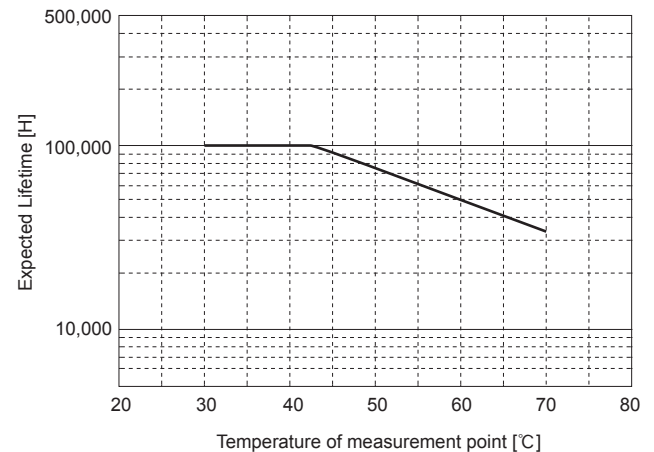
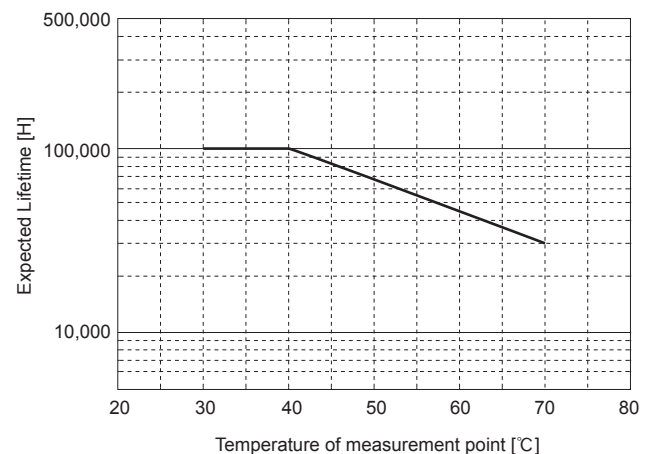

Fig.3.11 Expected lifetime of fan (PLA300F/PLA600F)
Fig.3.12 Expected lifetime of fan (PLA1000F/PLA1500F)
■ The built-in cooling fan should be changed periodically. The expected life time (R(t) = 90%) of the built-in fan depends on the operating condition as shown in Fig. 3.11 (PLA300F/PLA600F), Fig. 3.12 (PLA1000F/PLA1500F).